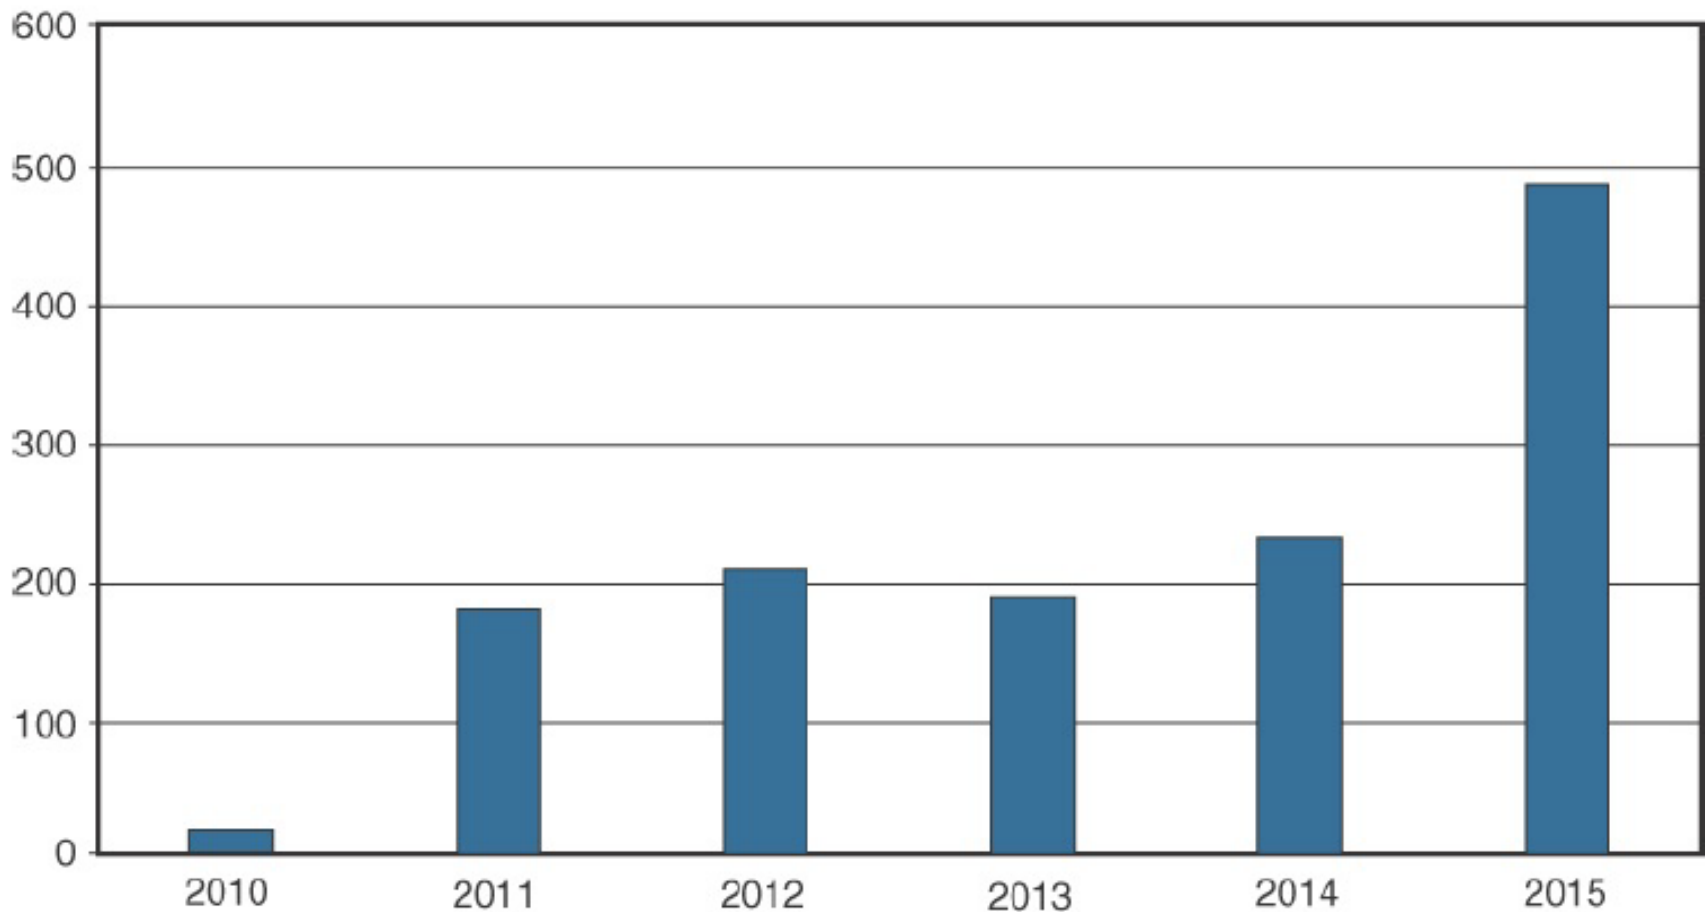

Figure 8.1 : History of Vulnerability Disclosures in Industrial Control Systems Since 2010
- A growing trend whereby **OT system vulnerabilities** have been exposed and reported. This increase is depicted in the figure 8.1, which shows the history of vulnerability disclosures in industrial control systems (ICSs) since 2010.